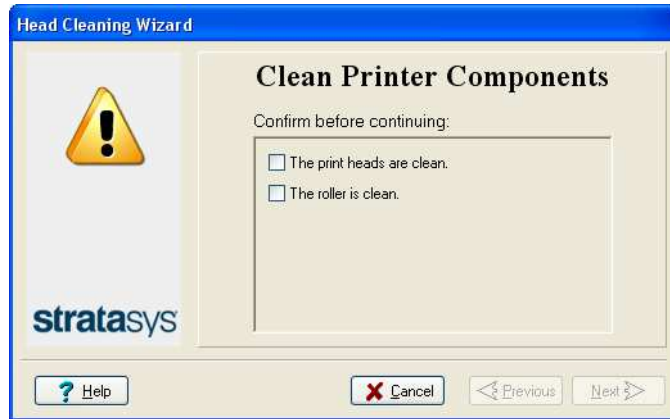

Figure 6-32 Head cleaning wizard—steps 5–11
11. When you have finished cleaning, select the confirmation check boxes in the wizard screen (see Figure 6-32) and click **Next**.